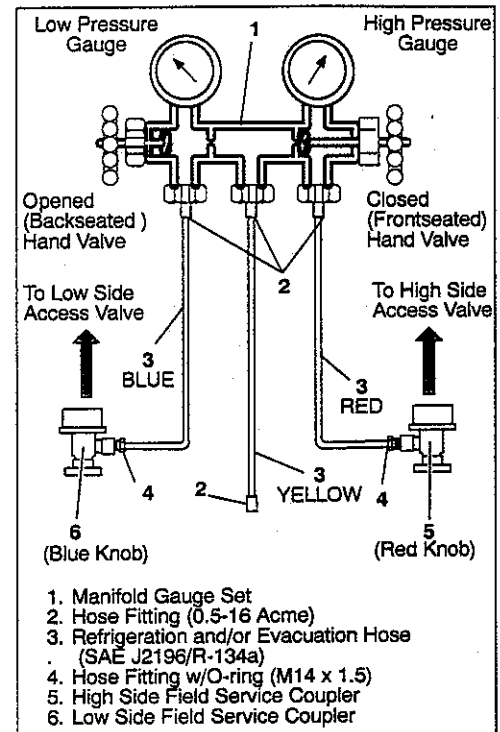

Figure 4-4 Manifold Gauge Set (R-134a)
A R-134a manifold gauge/hose set with self-sealing hoses is required for service of models covered within this manual. The manifold gauge/hose set is available from Carrier Transicold. (Carrier Transicold P/N 07-00294-00, which includes items 1 through 6, *Figure 4-4*). To perform service using the manifold gauge/hose set, do the following:
2. Back seat (turn counterclockwise) both field service couplers (see *Figure 4-4*) and midseat both hand valves.
2. Connect the field service coupler (see *Figure 4-4*) to the access valve)